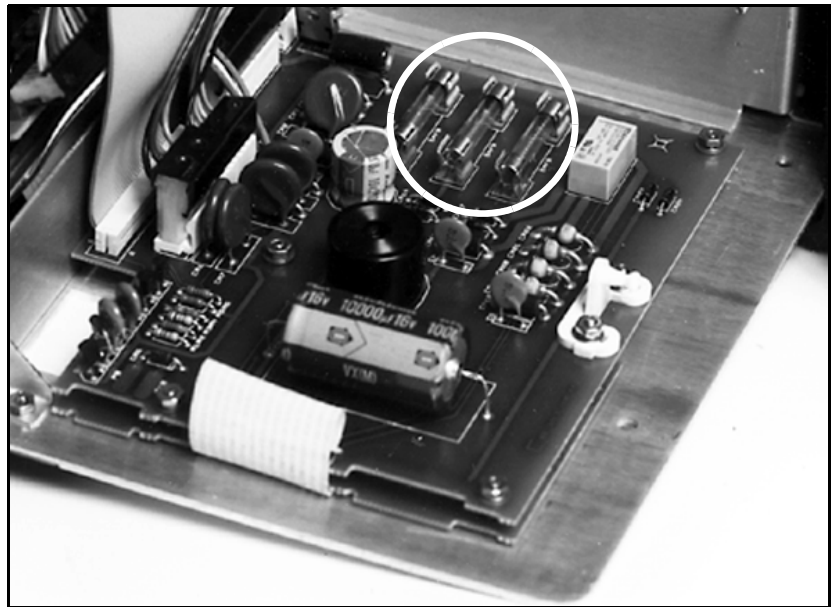

Figure 5-9 Location of the Three Fuses
2. Check all 3 fuses to see if they are blown (see Figure 5-9).